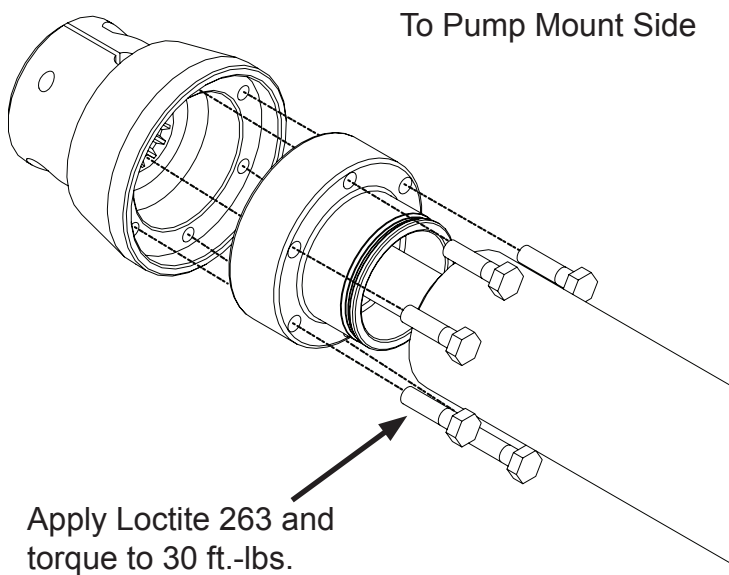

Figure 12
8. Apply Loctite 263 to the new six (6) bolts.
9. Use these bolts to attach the Pump Mount adapter flange to the new CV shaft (Figure 12).